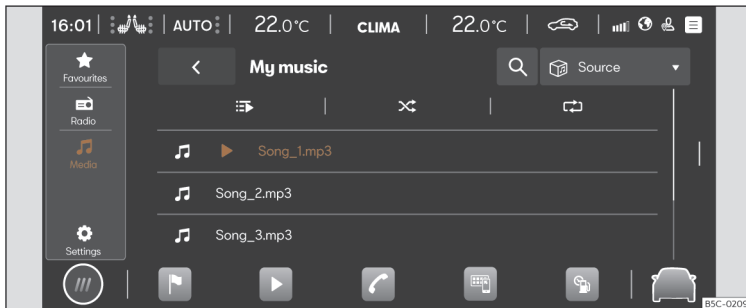

Fig. 169 Schematic diagram: Media view
- Press **HOME** > ► > 🎵 >>> **Fig. 169**.